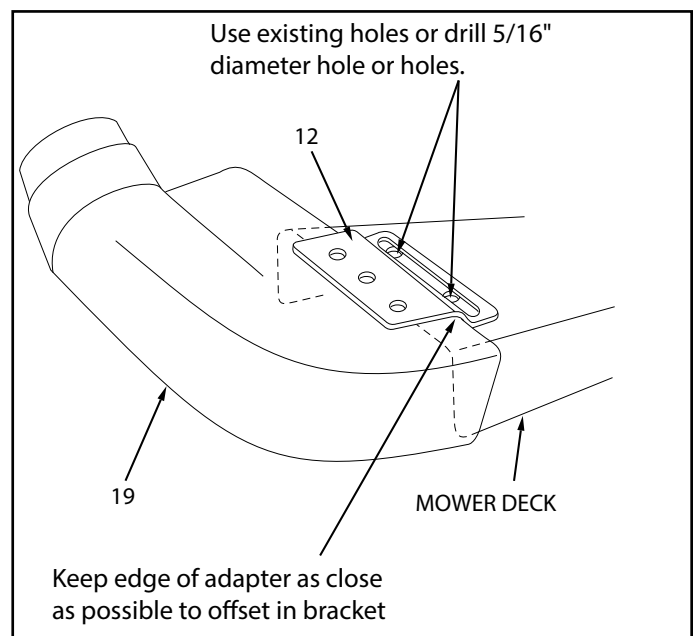

FIGURE 17
- Holding the adapter bracket (12) and the deck adapter together, position the deck adapter on the mower deck. Keeping the edge of deck adapter as close as possible to the offset in the adapter bracket, see if the slot in the adapter bracket can be aligned with one or two of the deflector holes in your mower deck's discharge opening. If the bracket can not be located correctly using existing holes, it will be necessary to drill one or two 5/16" diameter holes in the deck. See figure 17.